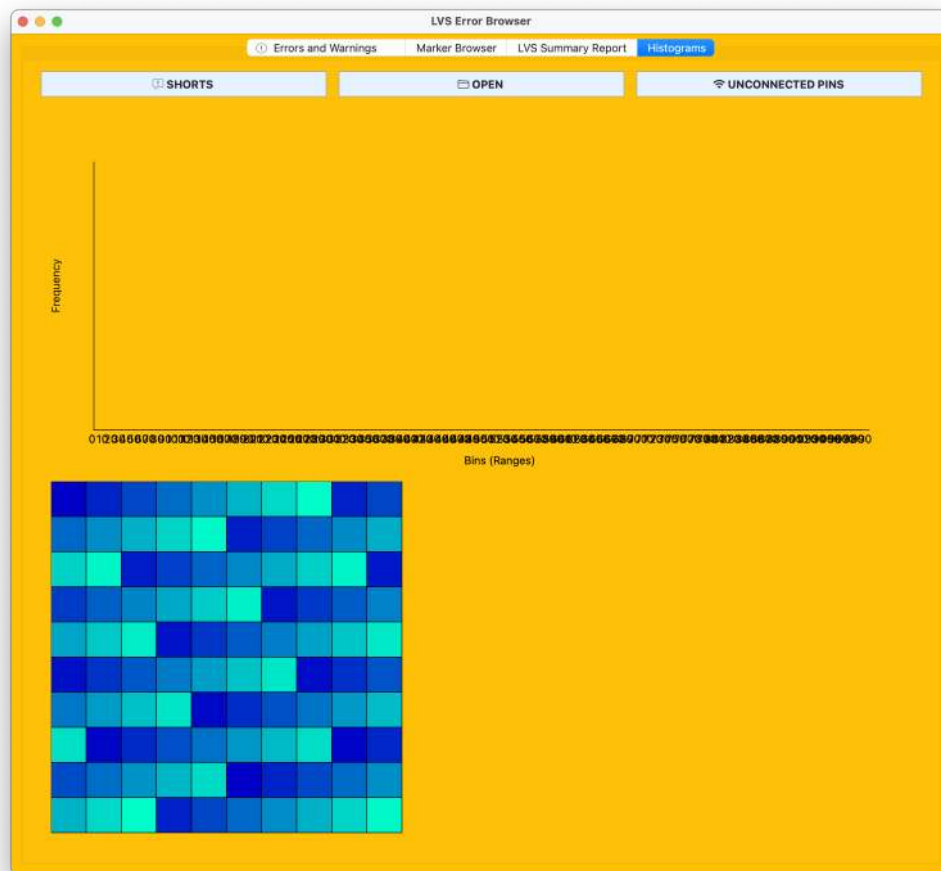

Figure 64: gcd1_LVS017 histogram: distribution widget for error classes (no shorts/opens bars; case is dominated by the single unconnected pin).
12. Image description (Histogram). Figure 64 shows the histogram/heatmap panel. As expected for an isolated open pin, there are no short/open bars; the